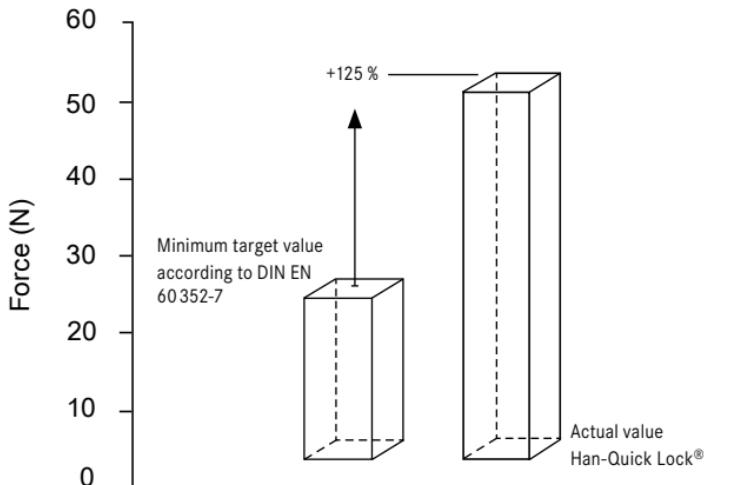

Figure VII-4: Wire pull-out forces with cable cross-section 0.5 mm^2
- Wire retention force: The required minimum values as specified in DIN EN 60 352-7 have been greatly exceeded (refer to Figure VII-4).